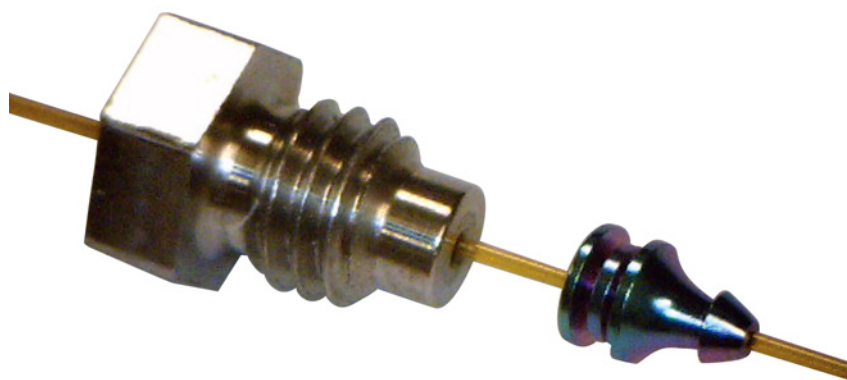

Figure 10. Ferrule swaged to column and internal nut
- Using the 1/4-inch open-ended wrench, turn the internal nut an additional 15 to 20 degrees clockwise to assure the ferrule is properly swaged onto the column. See **Figure 10**.